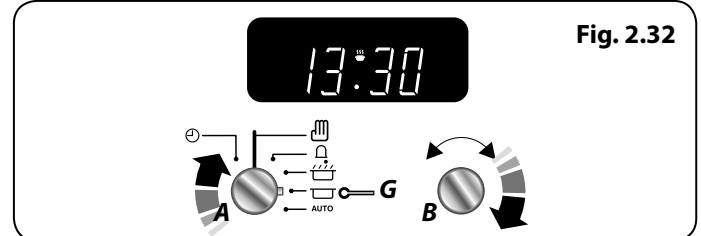

Fig. 2.32
2. Turn the **Timer (A)** knob to the **Stop Time (G)** setting (**Fig. 2.32**). The display will show the current time of day plus the 'cook time' you just set.
3. Continue to turn the **Adjusting (B)** knob to the amount of time required e.g. 1 minute (**Fig. 2.32**).